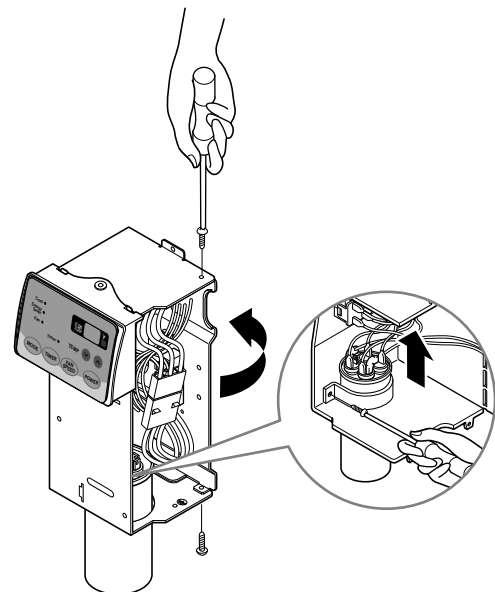

FIG. 35
3. Remove 2 screws and unfold the control box. (See Fig. 35)
4. Remove the screw and the clamp which fastens the capacitor. (See Fig. 35)